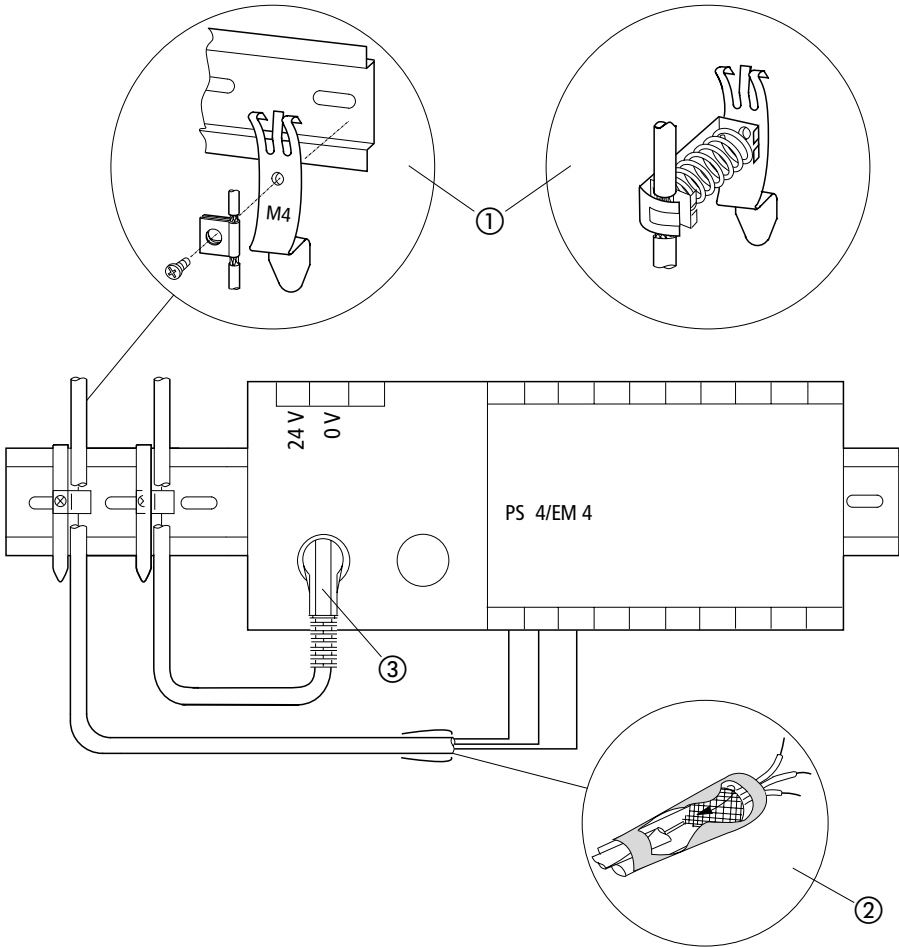

Figure 5: Screen connection to reference potential surface (here for PS 4-141-MM1, likewise for PS 4-151-MM1)
- ▶ Route screened data and signal cables on the left and the right of the device along the shortest possible distance and connect the screen braid to the ground terminal using a low-impedance connection and large contact areas (See Fig. 5, item ①).
- ▶ Connect the screen braid with the metal sleeve of the plug connector (DIN plugs) ③.
- ▶ Insulate the end of the screen braid as close as possible to the signal cable entry ②.